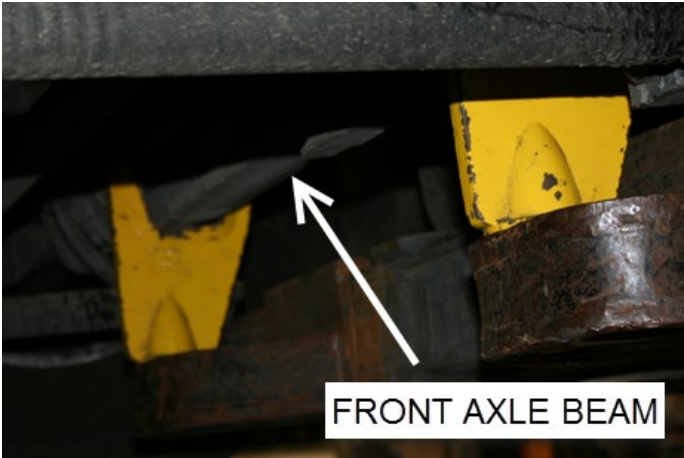

FIGURE 44
4. Lift the tow bar until the axle forks grab the front axle I-beam at the hoisting points (Figure 44).